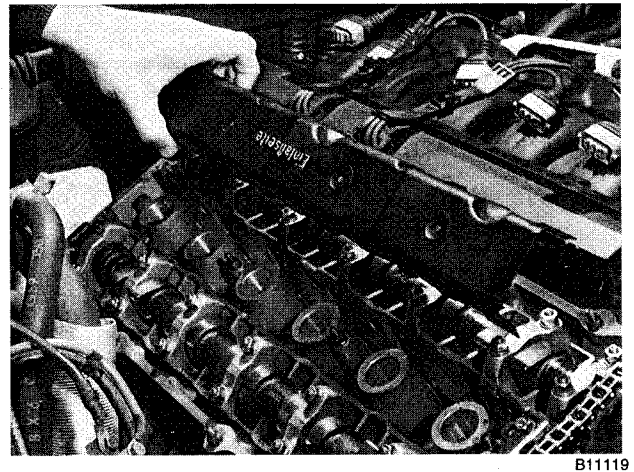

Fig. 29. Camshaft oil baffle cover being removed.
15. Remove oil baffle cover from above intake camshaft. See Fig. 29.